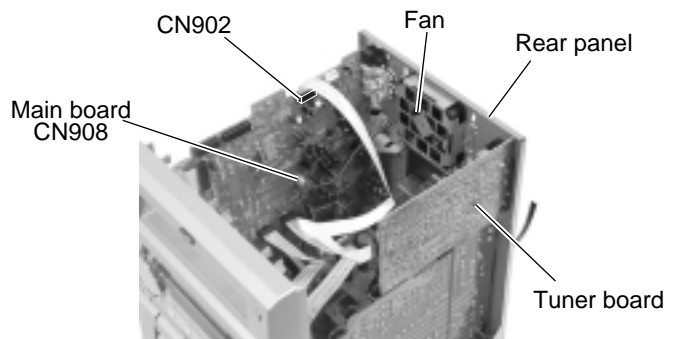

Fig.9
**Removing the fan (See Fig.9 and 12)**